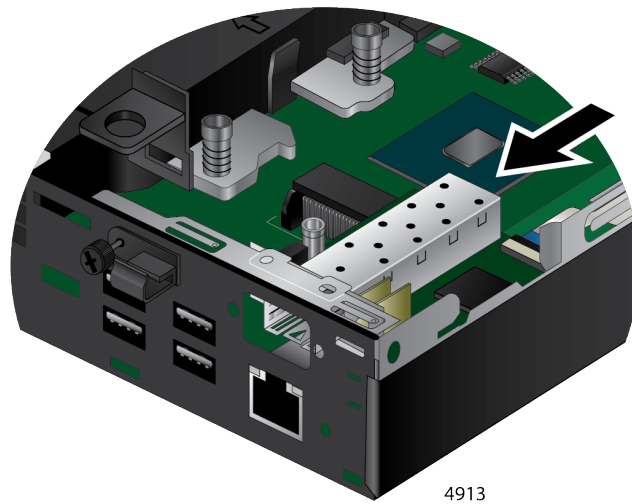

Figure 8. Attaching the SFP Board to the Chassis
9. Insert the SFP board inside the system so that the SFP slot goes through the SFP cutout in the back panel of the system. See Figure 8.